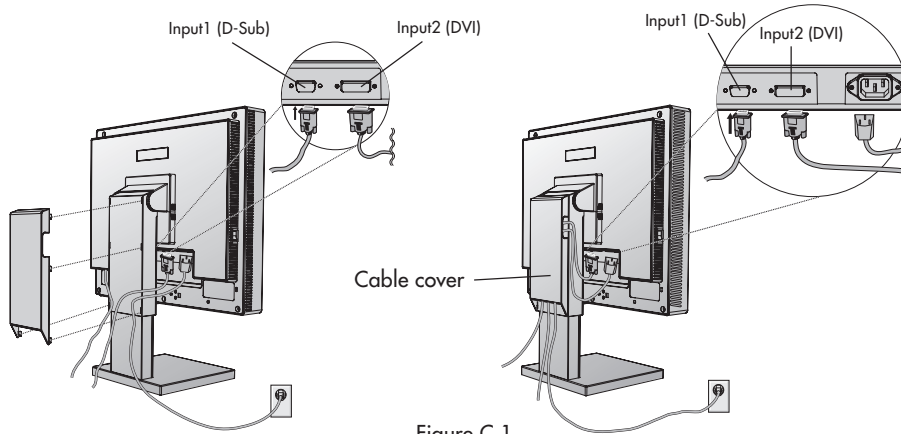

Figure C.1
**NOTE: To obtain the MultiSync LCD1960NXi™ Macintosh cable adapter, call NEC-Mitsubishi Electronics Display of America, Inc. at (800) 632-4662.**
3. Remove the cable cover. Connect the 15-pin mini D-SUB of the video signal cable and DVI signal cable (not included) to the appropriate connector on the back of the monitor (**Figure C.1**).
4. Connect one end of the power cord to the monitor and the other end to the power outlet. Place the Video Signal Cable and power cord under Cable cover (**Figure C.1**). Replace cable cover.